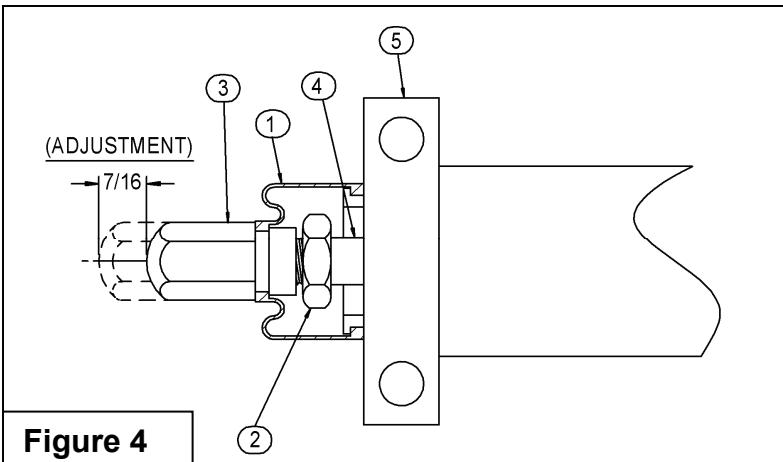

Figure 4
2. Remove the Protective Boot (Item 1). (See Figure 4.)
3. Loosen the Lock Nut (Item 2) and back the nut away from the nubbin shaped Adjusting Cap (Item 3). (See Figure 4)